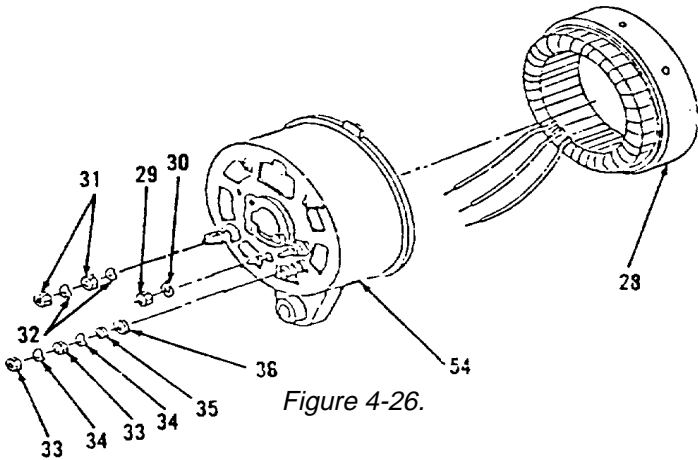

Figure 4-26.
- 25. Using two screwdrivers, pry apart stator (28) and remove from frame (54, Figure 4-26). Be careful not to damage stator (28).